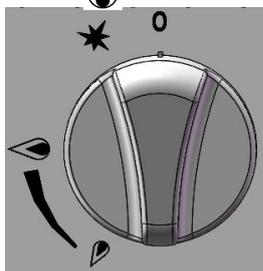

Fig. 2
①Align the control valve knob on the "0" position (Fig. 2), so that the valve is closed.